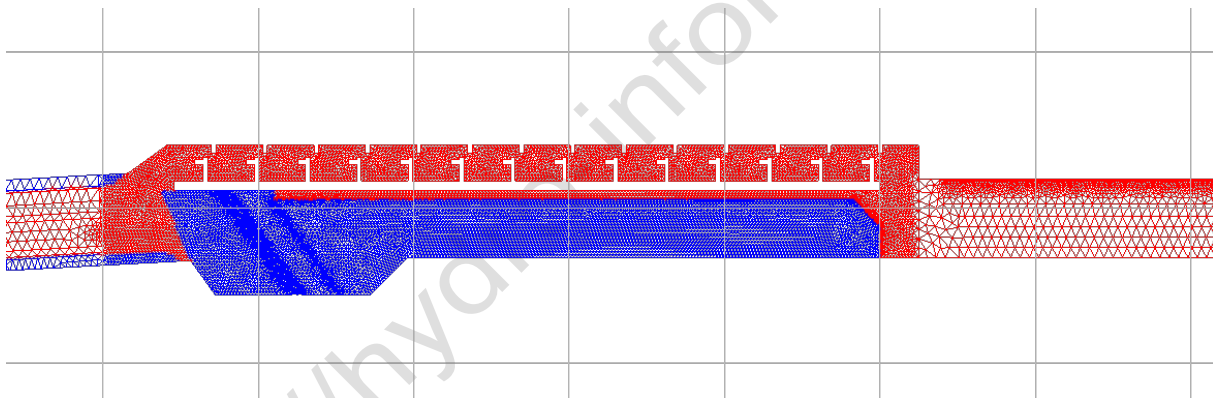

Figure 18: Example of the resulting BOTTOM FRICTION file.
5. Add the new Attribute Information as shown in Figure 18.